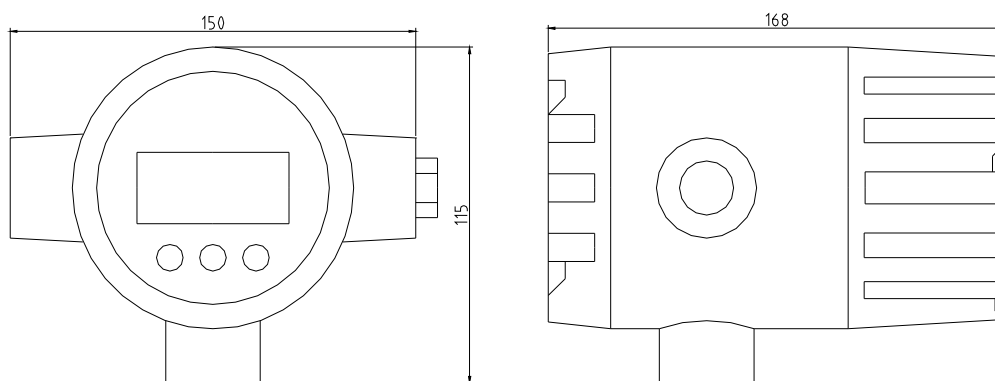

Fig. 4-4 LRT-II and LRT-III displayer in the field
d) LRT-II and LRT-III displayer in the field as Fig. 4-4